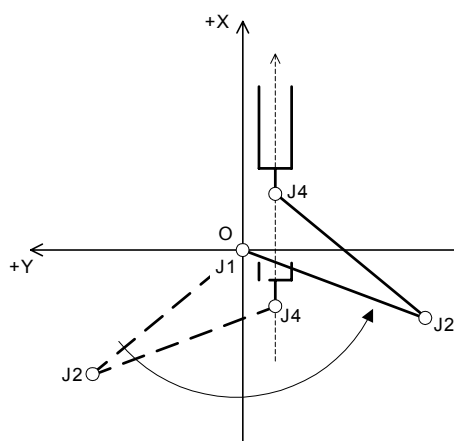

Fig.4-20 : When passing through near the origin point by linear interpolation
- (1) When performing a XYZ interpolation operation while maintaining the speed of the control point, the J1 axis must rotate at a faster speed when passing through a point near the origin point O (one of the robot's singular points) as shown in Fig. 4-20, causing an excessive speed error depending on the specified speed. If SPDOPT ON is executed, the speed is adjusted automatically in order to prevent an excessive speed error from occurring. For example, while in operation at the command speed V, it approaches the origin point O, and the speed will be exceeded if it continues to operate at the current speed, the speed is decreased automatically as shown by A in Fig. 4-21 in order to prevent the speed to be exceeded. Then, when it has passed near the origin point O and it becomes possible to increase the speed, it starts accelerating to reach command speed V as shown by B in Fig. 4-21.